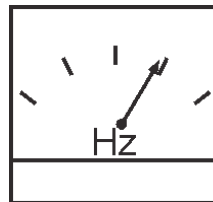

Figure 52. Frequency Meter (Hz)
10. The generator's frequency meter (Figure 52) displays the 60 cycle output frequency in **HERTZ**.